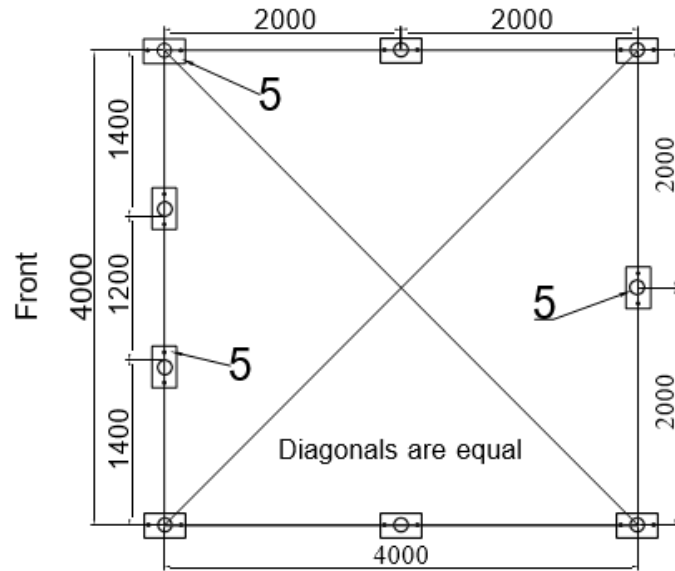

Figure 2 Position of Base Flanges
Begin by determining exact location of the four (4) corners of the building. Mark front edge and side-to-side width of the assembly on the ground. Drive alignment stakes into the ground outside of the markings, and draw alignment strings along both ends and sides of the building to the dimensions shown in Figure 2. The outline of the strings will represent the final location of the base flanges. The initial location of each Corner Base Flanges (5) is critical to the alignment and fit of the frame components and cover.
Locate the Left Corner Base Flange and Right Corner Base Flange(5). Secure the base flanges with Stake Pegs (Part #9). Measurements shown in Figure 2 are to the center of the upright sockets on each Base Flange.